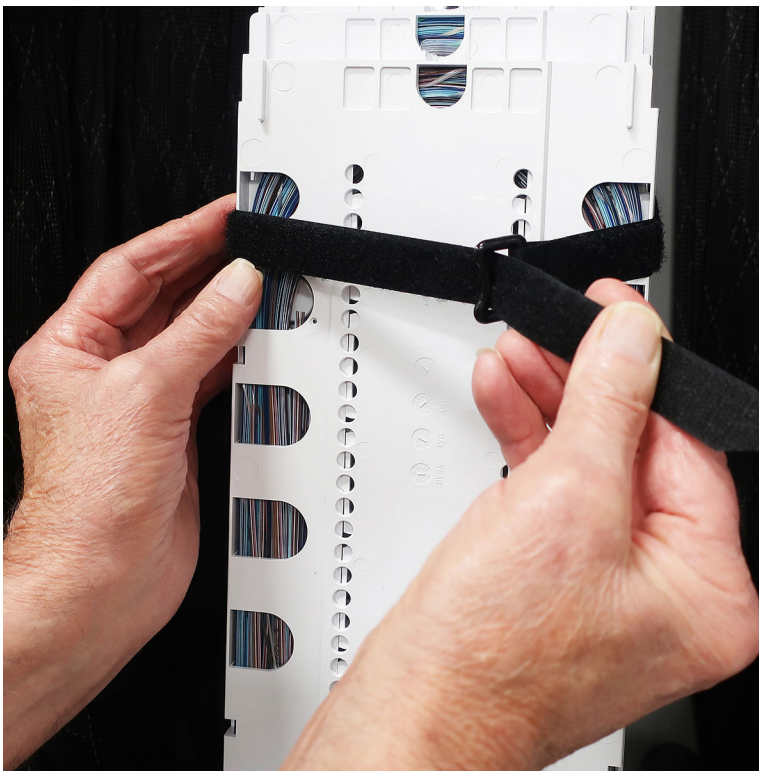

Figure 18. Securing Tray With Hook-and-Loop Strap
4. When done installing trays in a particular tray holder bracket, lift the trays up together and fasten them in place using the hook-and-loop strap. Refer to Figure 18.